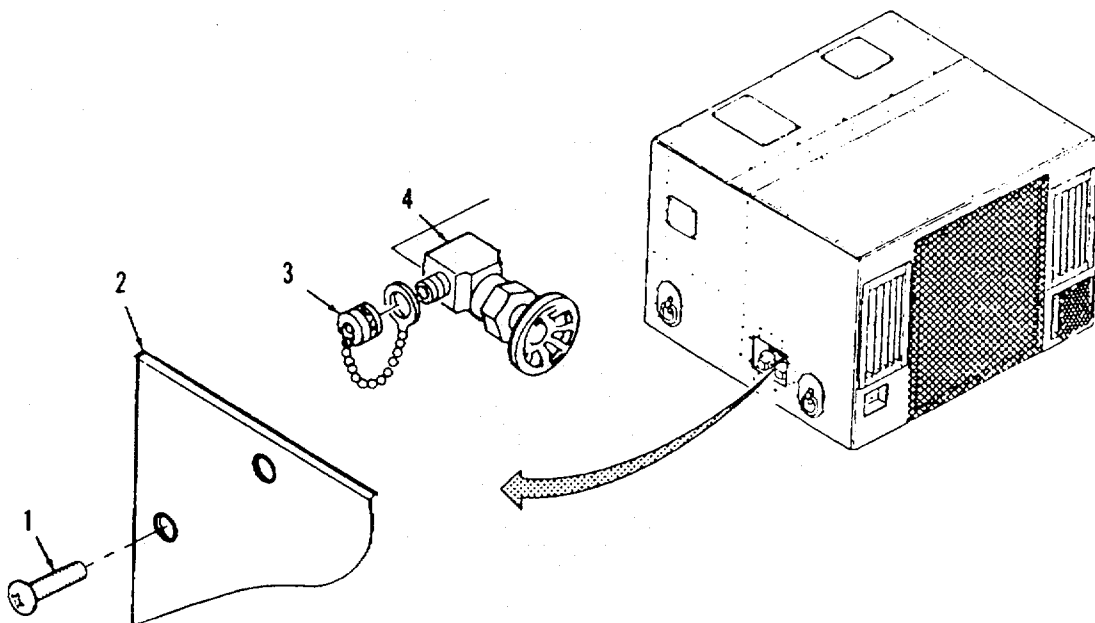

Figure 4-1. Refrigerant Equipment Set Up.
**a. Equipment Set UP.** (Refer to Figure 4-1).
- (1) Remove eight screws (1) and access cover (2).
- (2) Remove protective caps (3) from service valves (4).
- (3) Connect service hoses to high and low pressure service valves (4) as indicated by data plates near service valve area.
(1) Be sure air conditioner mode selector switch is set to COOL and temperature selector knob is set to maximum COOL. Allow system to run for a minimum of 15 minutes.
(2) Add 30° to ambient temperature and refer to Table 4-2 for proper corresponding required pressure reading.
(3) Check gauge reading on manifold. If gauge pressure is less than indicated table pressure, the system does not contain enough refrigerant. Check system for leaks and/or recharge system as needed and then repeat pressure check.
(4) If manifold gauge readings closely match appropriate value in Table 4-2, refrigerant system is properly charged.
(5) Turn mode selector switch to OFF position.
***h. Equipment Removal.*** (Refer to Figure 4-1).
(1) Close service valves on unit.
(2) Disconnect manifold from high and low pressure service valves (4) on unit.
(3) Install caps (3) onto high and low pressure service valves.
(4) Install access cover (2) and eight screws (1).
(5) Recover refrigerant from service manifold.